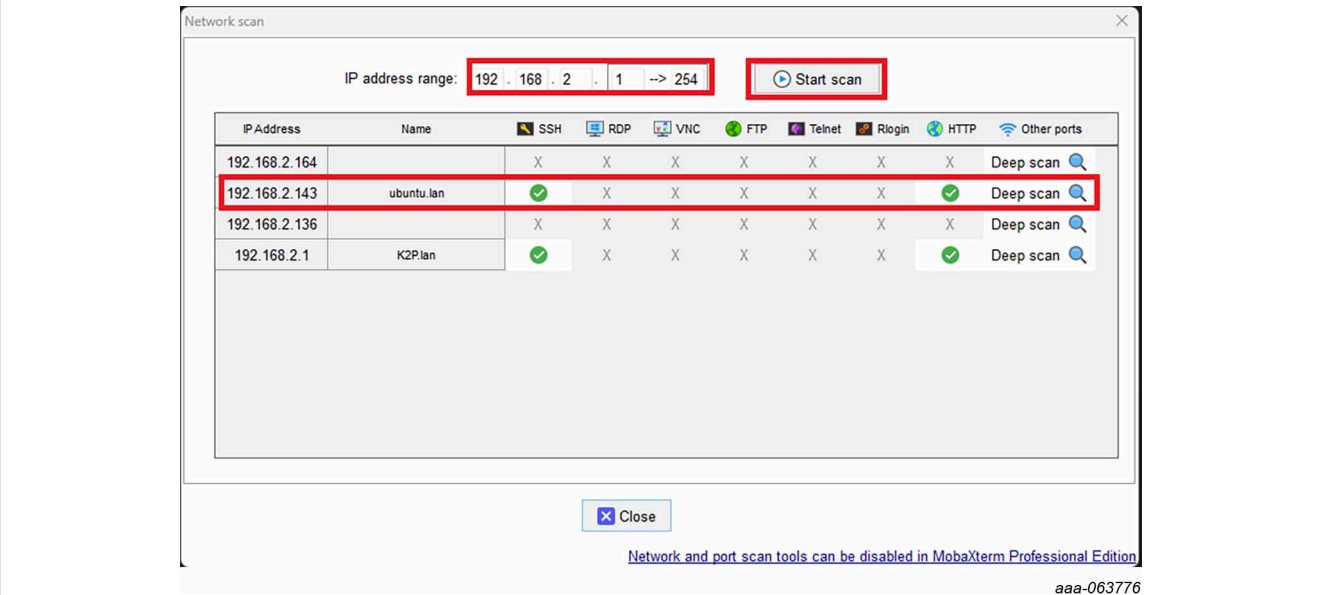

Figure 81. Network scan window
3. Select the **IP address range 192.168.2.1 --> 254**. For more details, see Figure 81.